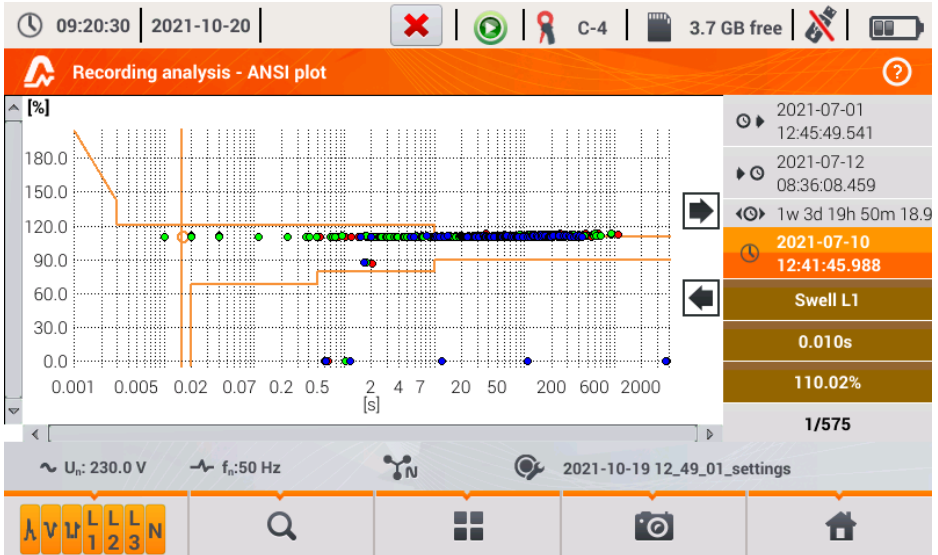

Fig. 31. Recording analysis – ANSI graph.
- ANSI chart. It shows the graph of voltage events according to ANSI criteria. Dots represent individual events and their location indicates the duration (horizontal axis) and peak (*extremum* in the event table) related to the nominal voltage on the vertical axis. Arrow icons on the right side of the graph may be used to select individual events. By touching the screen in the graph area, the user may move the marker to the indicated place. Information about the specified event (type, duration, extreme value) are shown on the right side of the screen. An example of screen with similar diagram is shown in Fig. 31.